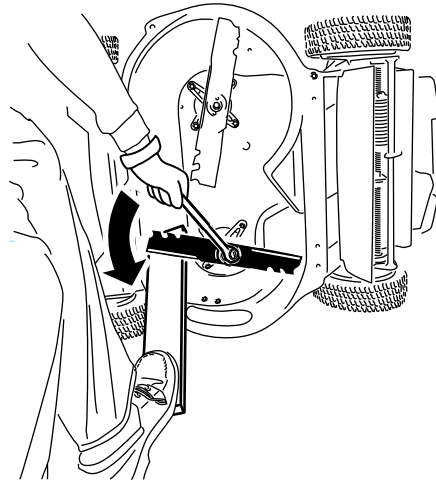

Figure 36
1. Use a block of wood to hold each blade steady and turn the blade bolt counterclockwise as shown in Figure 36.